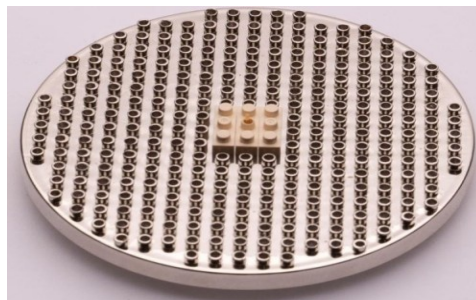

Figure 15 Ground plane Dielectric Cell Configuration for Discone Antenna
4. The circular ground plane with 80 mm diameter is shown in Figure 15. Locate the “dielectric feed cell with a hole” over the inner conductor pin of the connector. Locate the other dielectric cells at the sides of it.